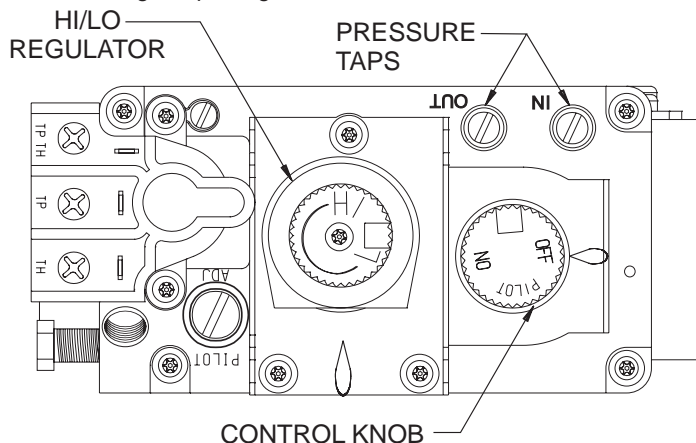

Figure 72
**NOTICE:** The gas control valve allows you to increase or decrease the height of the main burner flame. The control valve has a pressure regulator with a knob as shown in **Figure 72**. Rotate the knob clockwise to "HI" to increase the flame height and counterclockwise to "LO" to decrease the flame height.
The valve regulator controls the burner pressure which should be checked at the pressure test point. Turn captured screw counter clockwise 2 or 3 turns and then place tubing to pressure gauge over test point (Use test point "A" closest to control knob). After taking pressure reading, be sure and turn captured screw clockwise firmly to re-seal. Do not over torque. Check for gas leaks. See Figure 72 for pressure tap locations.